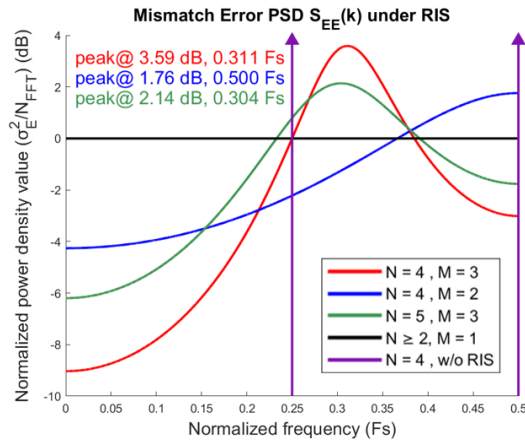

Fig. 5. The ideal spectrum of $M = 1 \sim 4$ for the $N = 4$ RIS logic
7. Mathematically, the RIS guideline **Randomness** means that the spectrum will be as shown in Fig. 5, which guarantees that the transition probability from one heroine to each other in your design is equal.
Compare the PSD with Fig.5 in the PDF for cases M = 1 ~ 4